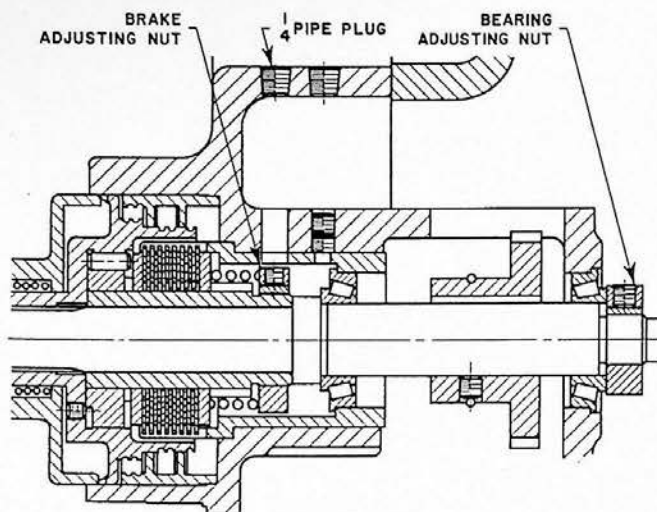

FIGURE 19A
### To Adjust Front Elevating Screw Bearing (Figure 19A and page 126)
### To Adjust Vertical Screw Brake (Figure 19A and page 126)
1. Remove 1/4 inch pipe plug (Figure 19A) from left side of front bracket. Align set screw in brake adjusting nut (53) with pipe plug hole and insert a hexagon key in set screw. Loosen set screw and tap to loosen locking shoe beneath it. Leave key in set screw and rotate elevating shaft slightly counter-clockwise to insure freedom of locking shoe. Turn shaft clockwise about one turn. Tighten set screw and remove hexagon key.